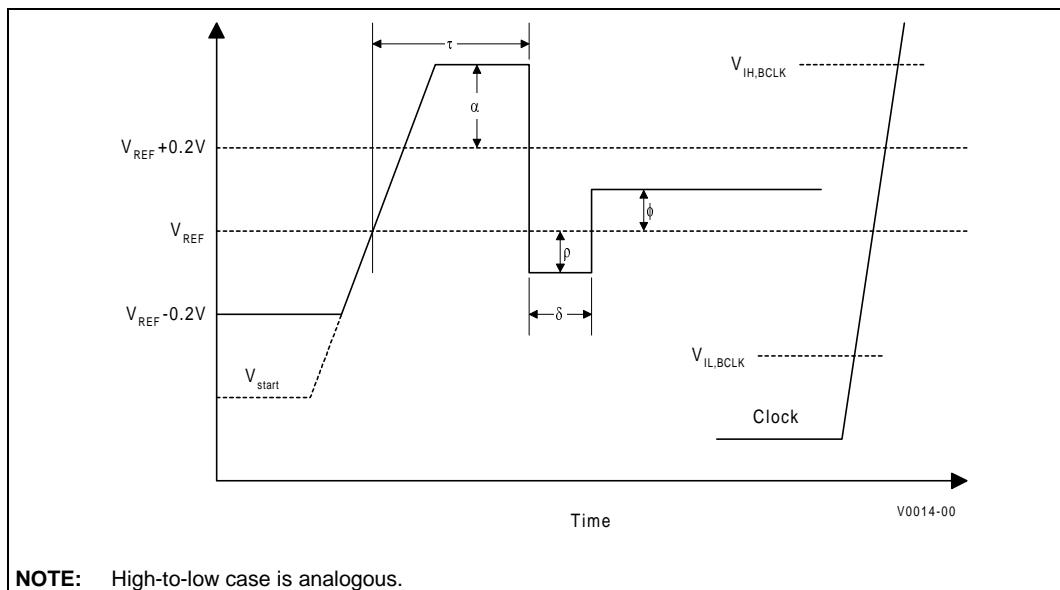

Figure 4.2 GTL+ Receiver Ringback Tolerance
Table 4.2 and Figure 4.2 illustrate the GTL+ signal quality specifications for the Mobile Pentium II processor. Refer to the *Pentium® II Processor Developer's Manual* for the GTL+ buffer specification.
1. Specified for the edge rate of 0.3 – 0.8 V/ns. See Figure 4.2 for the generic waveform.